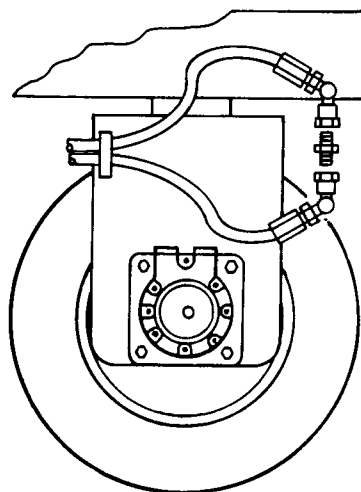

Figure 5-9. Counterbalance Valve Adjustment
(2) Disconnect the two hydraulic hoses to each drive motor and connect them together, thus bypassing the drive motors (Figure 5-9).